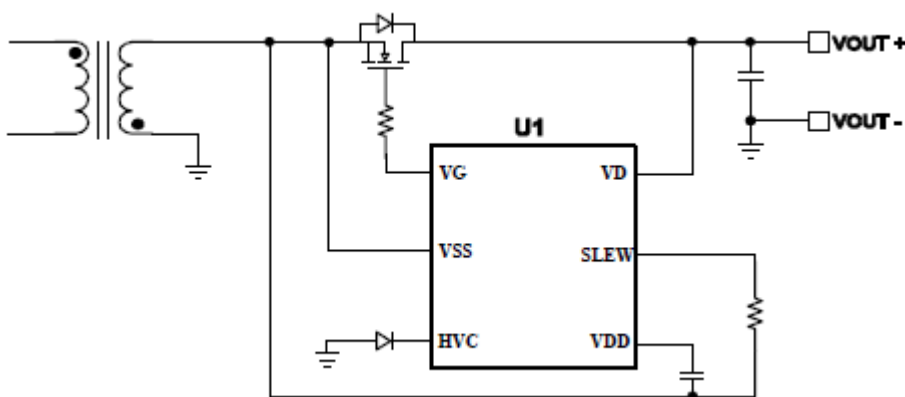
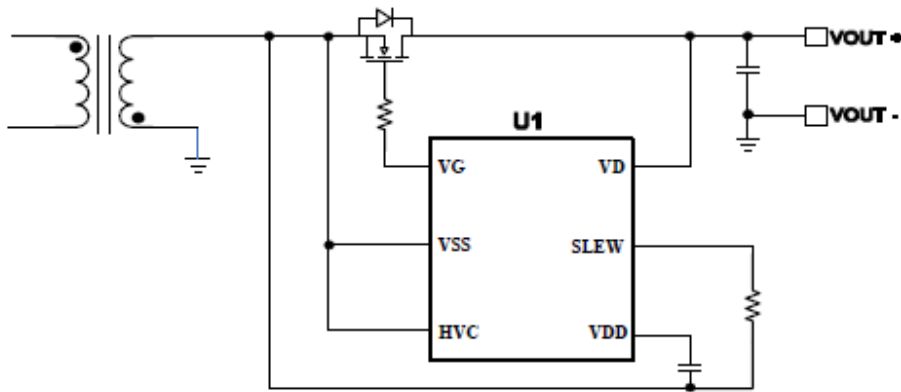

Figure 4— ZCC6908 in High-Side Rectification
Figure 5— ZCC6908 in High-Side Rectification
Since HVC operating range is from 0V to 180V, ZCC6908 can support most applications even when VOUT is down to 0V for low-side rectification. When VOUT (HVC) is above 9.7V, VDD will be regulated at 9V. VDD follows VOUT (HVC) with 0.7V dropout until VOUT is below 4.7V. Once VOUT drops below 4.7V, another 40mA current source from Drain of SR MOSFET Q1 (VD) is going to charge VDD up and regulate at 5V again. If ZCC6908 is used for high-side rectification, there are two ways to do self-supply shown in Fig.4 and Fig.5. Fig.4 shows HVC is connected to secondary ground through an external diode. Here VDD is generated from HVC and regulated at 9V. Maximum voltage at HVC is:
Fig.5 works the same as described above when HVC is below 4.7V, since HVC is shorted to VSS. Here VDD is generated by VD and regulated at 5V in this configuration.